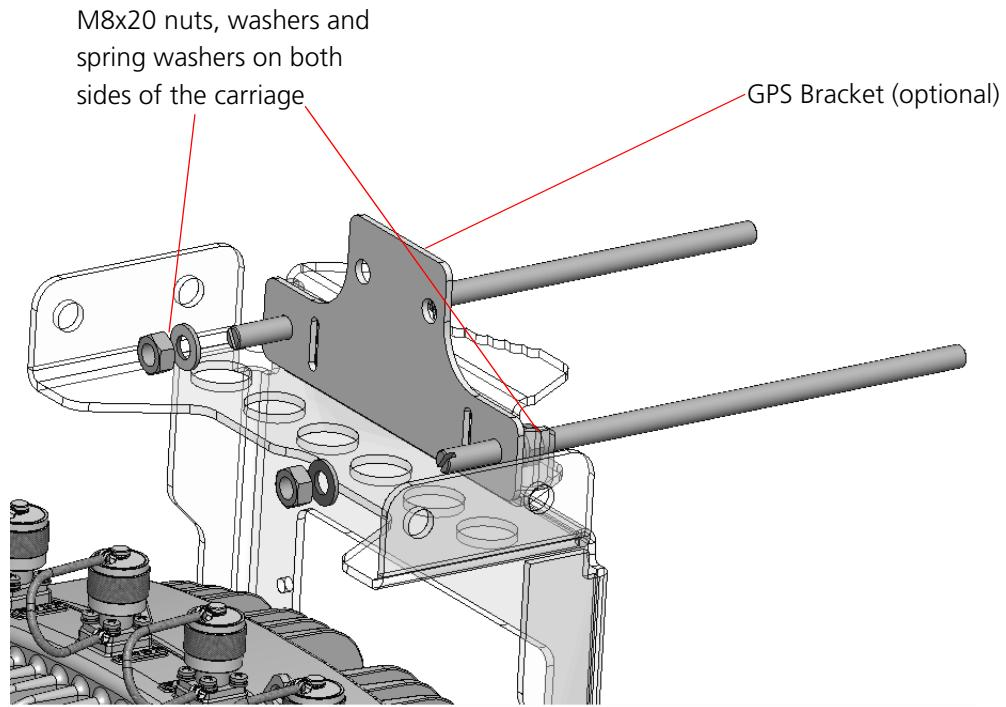

Figure 2-14: Installing the GPS Bracket
- 2 Attach nuts, washers and spring washers to both sides of the threaded rods and fasten to fix the rods in place on the carriage (Figure 2-14).